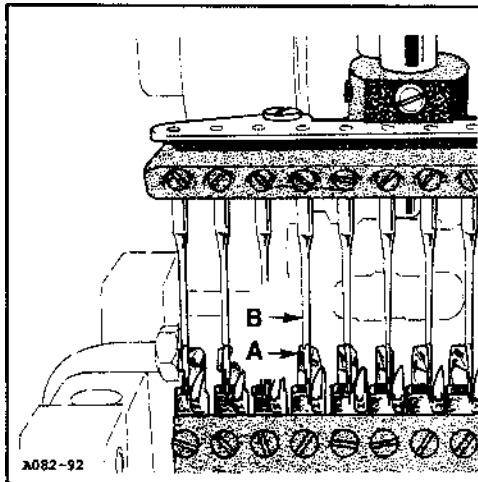

Fig. 8
Turn the handwheel in operating direction. When each looper (A, Fig. 8) moves forward the point should pass the left side of needle (B) with a clearance of $0.000"$ to $0.003"$ (0.00MM to 0.08MM).